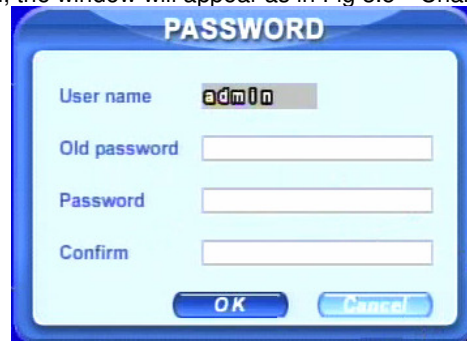

Fig 3.5 Change Password
STEP1 In login state, click Log in/out on the control bar. A window will appear with two options. One is for logout, another for password modification. Click Password, the window will appear as in Fig 3.5 Change Password: